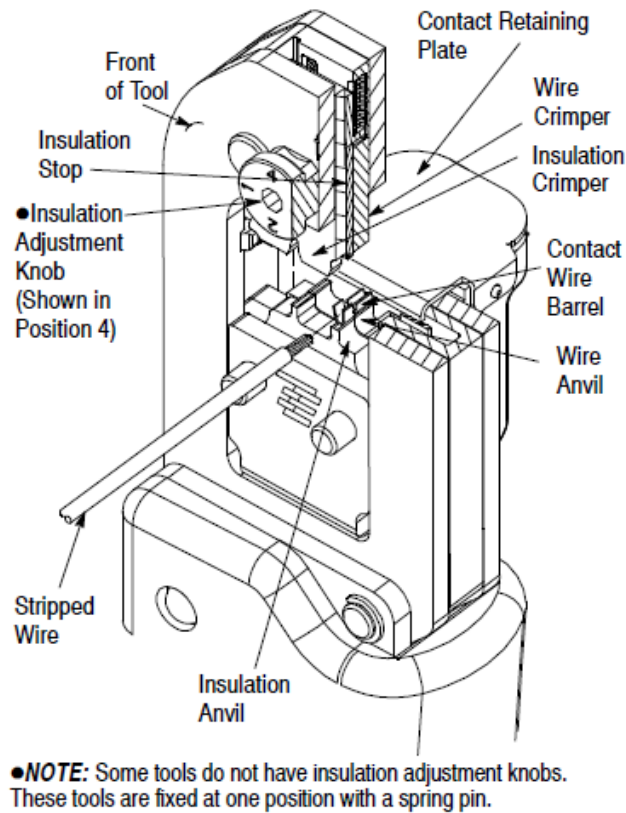

Figure 1
The tool features a fixed die (crimper), a movable die (anvil), an insulation stop, a CERTI-CRIMP hand crimping tool ratchet control, and a flip locator. Many tools feature an insulation adjustment knob which is used to regulate the crimp height of the contact insulation barrel during the crimping operation. See paragraph 3.2. in this instruction sheet for details on the use of the adjustment knob. The flip locator is a feature used to locate the contact in the crimp tooling. The insulation stop will limit the insertion distance of the stripped wire into the contact. In use, the insulation stop rests in the slot of the contact. (See Figures 1 and 2.) The CERTI-CRIMP hand crimping tool ratchet control ensures full crimping of the contact. Once engaged, the ratchet will not release until the dies have been fully closed.
On many tools, the insulation barrel crimp height is regulated by the insulation adjustment knob (see Figure 1). The insulation crimp should hold the insulation firmly without cutting into the insulation.
5. Check the clearance between the bottoming surfaces of the wire crimper and the wire anvil (see Figure 1). If the clearance is 0.025 mm [.001 in.] or less (on at least two of the bottoming surfaces), the ratchet is satisfactory. If clearance exceeds 0.025 mm [.001 in.], the ratchet is out of adjustment and must be repaired. See Section 5; REPLACEMENT and REPAIR.